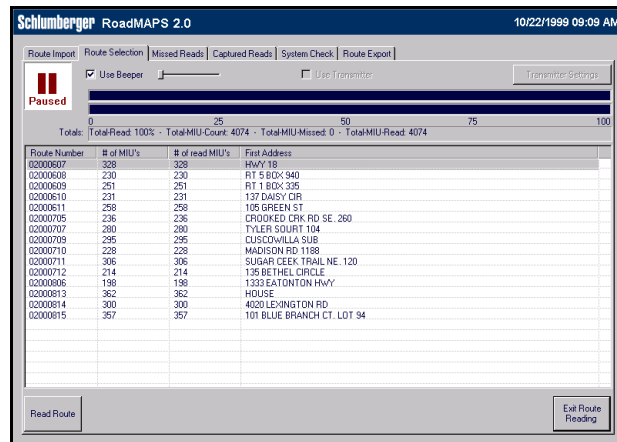

Figure 4.11 Route With All Reads Completed
- 6 If the message area at the top of the Captured Reads screen indicates that all account on the route have been read, as shown in Figure 4.11, select the next route to be read.